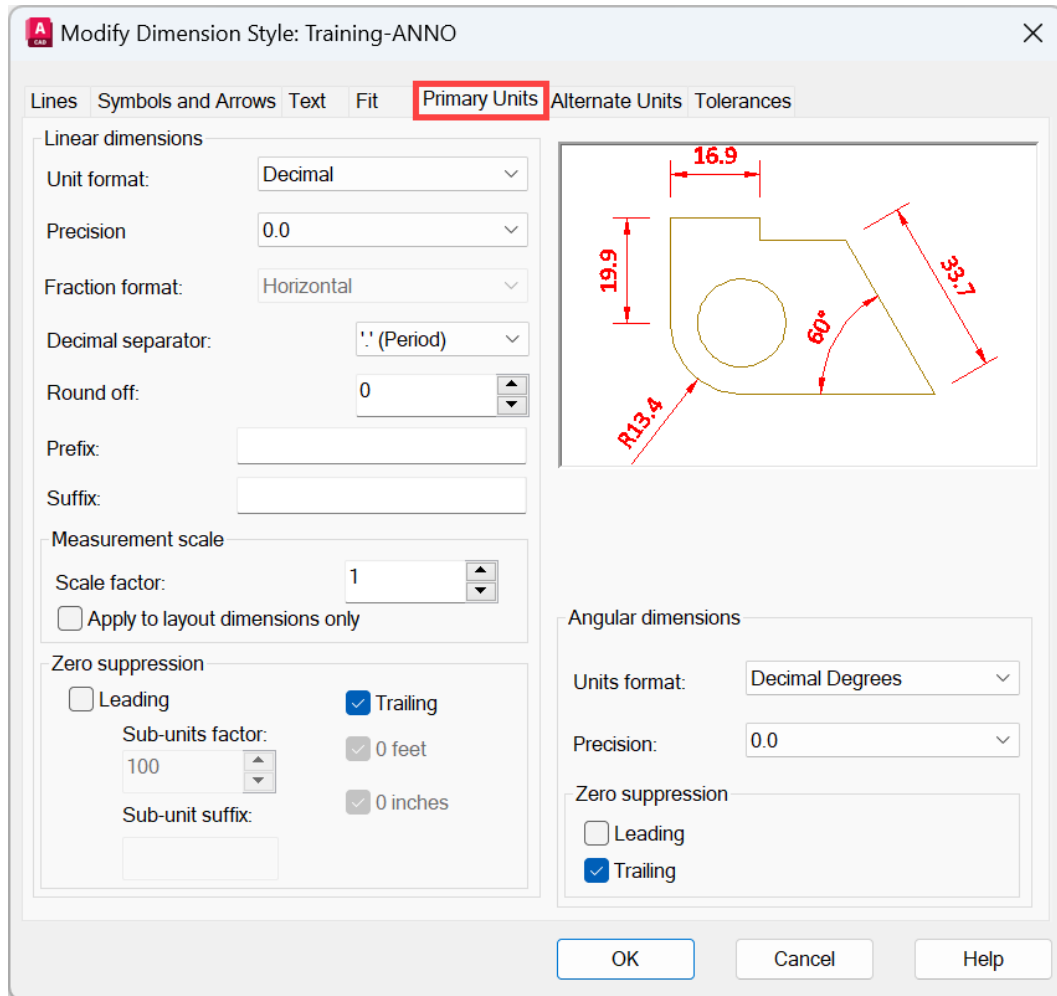

Figure 7.15: The Primary Units tab with the Decimal separator set to Period
16. Make sure all your **Primary Units** settings are set, as shown in *Figure 7.15*.